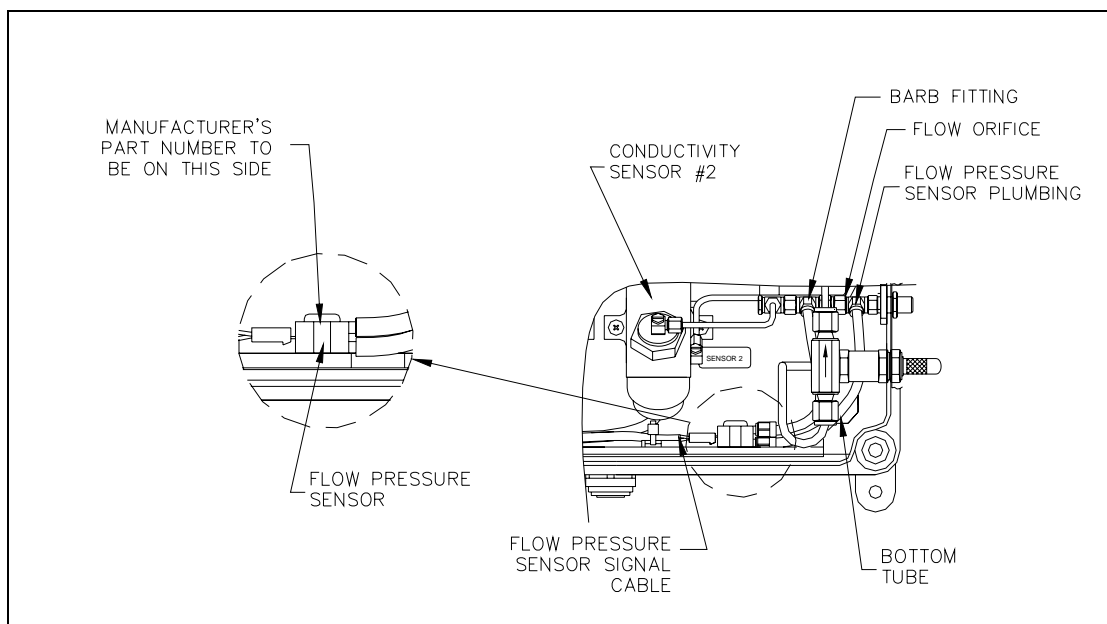

Figure 13. Complete Flow-Pressure Sensor Assembly.
9. Plug the flow pressure sensor into its signal cable. Carefully locate it back into the case and secure with the two Phillips screws. There should not be any crimps or restrictions in this water line. **Make sure that the side of the flow pressure sensor with the manufacturer's part number is oriented correctly according to Figure 13.**